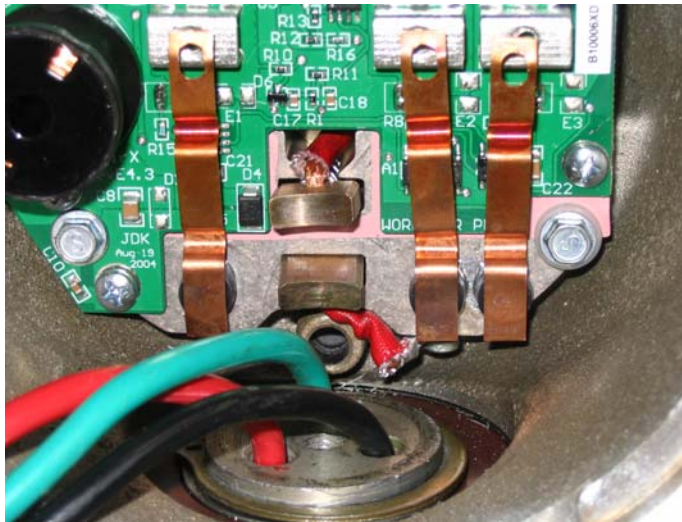

Fig. 10
32. Make sure the bottom brush wire is between the rectifier and the circular ground sleeve on the body casting. A small screwdriver may be necessary to push this wire into its proper position. Be sure that the brush moves freely inside the slot. See Fig 10.